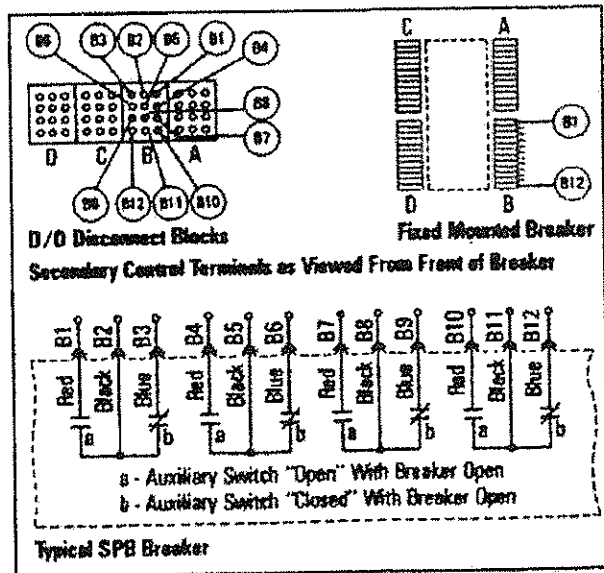

Fig. 8. Connection Diagram Shown for 4(a/b) Spare Auxiliary Switches for Standard Drawout and Fixed Mounted Breakers.
- Connect all control wires as indicated by the connection diagrams in either Figs. 8 or 11. Exact terminal locations for both types of drawouts and fixed mounted breakers are shown.